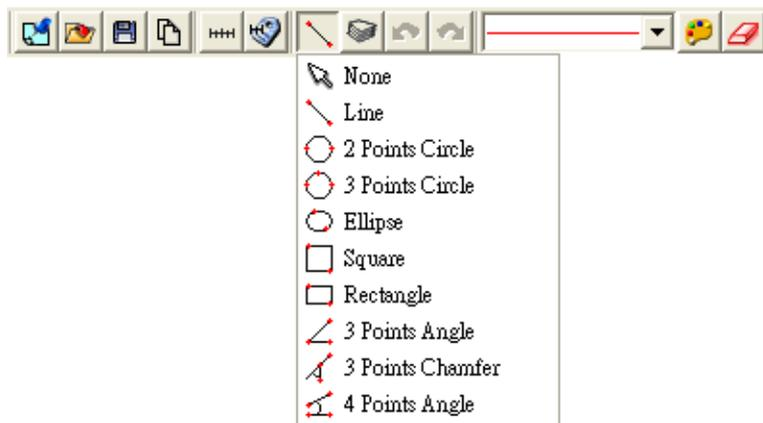
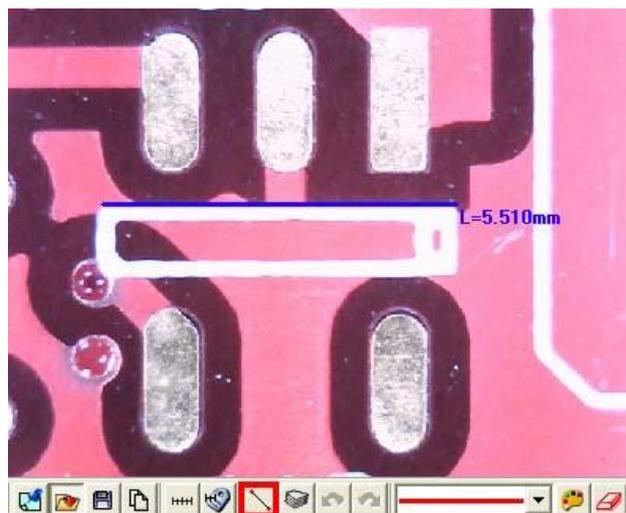
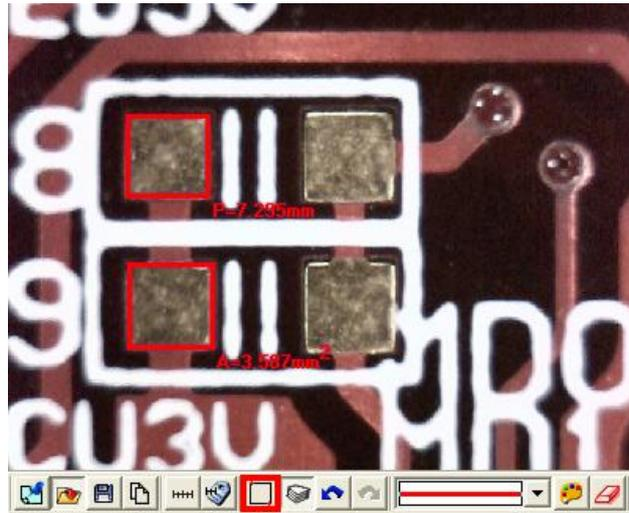
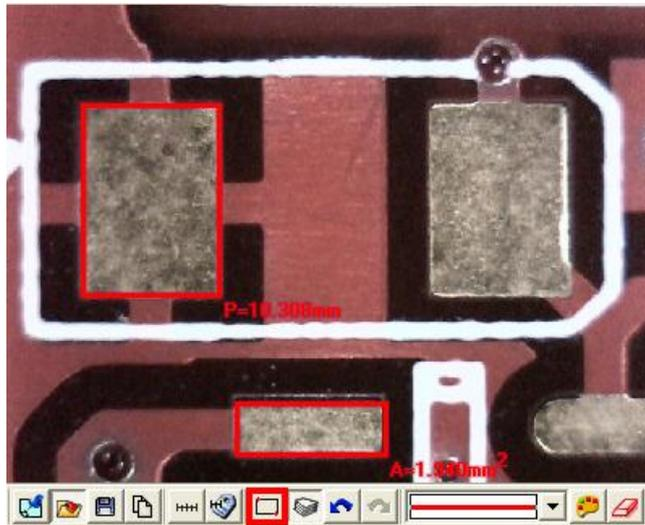

Fig. 5-63. Measurement Tool Styles
Fig 5-64 Length measurement
Fig 5-68 Square
Fig 5-69 Rectangle
The measuring include optional Line, 2 Points Circle, 3 Points Circle, Ellipse, Square, Rectangle, 3 Points Angle, 3 Points Chamfer, 4 Points Angle for variable demand. Fig. 5-63.
- (1) Line: Measure the Length and use . See Fig 5-63.
Firstly choose Fig.5-63 Scale information setting dialog. Measure the Length on the PCB rectangle, choose the “line” icon, then draw a line, the “L” means Length. Ex: L=5.510mm as Fig. 5-64.
- (2) 2 Points Circle: Measure the round object can use . Firstly choose Fig.5-63 Scale information setting dialog. To point any dot on the circle, pressing the left button of the mouse and drag the line to another point on the circle. It should automatically calculate C: Circumference, A: Area, R: Radius, D: Diameter. See 1st circle: C=2.276mm, 2nd circle: A=0.412mm², 3rd circle R=0.716mm, and 4th circle D=1.467mm as Fig. 5-65.
- (3) 3 Points Circle: See an arc or a circle shows on the observation only and need measure the circle, it can use . Firstly choose Fig.5-63 Scale information setting dialog. To point any point on the edge of an arc, draw a line to second point, then drag the line to the third point on the same arc, to automatically calculate a correct circle. The said 3 points on the arc to be necessary a triangle. See Fig.5-6, the See
- (5) Square: To measure the object is a parallelogram, it can use . Firstly choose Fig.5-63 Scale information setting dialog. To point one dot on the angle, pressing the left mouse button, and drag the diagonal to make a square and fit the observed object. See Fig 5-68 , P : Perimeter, A: Area, see Fig 5-68, the top
- (6) Rectangle: Measure a rectangle and use . Firstly choose Fig.5-63 Scale information setting dialog. To point one dot on the corner, press the left mouse button, and drag the diagonal to make a rectangle to fit the observed object. See Fig 5-69, P : Perimeter, A: Area, see Fig 5-69, the top rectangle on left $P=10.308\text{mm}$, the bottom rectangle in the middle $A=1.940\text{ mm}^2$.